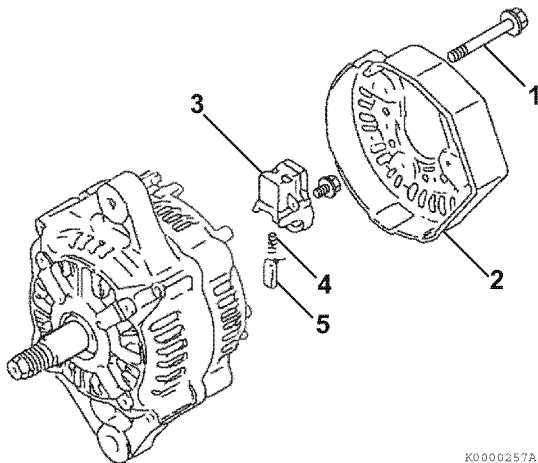

Figure 11-6
- Remove the three bolts (**Figure 11-6, (1)**) retaining the rear cover (**Figure 11-6, (2)**) to the rear frame assembly.
- Remove the brush holder (**Figure 11-6, (3)**). Remove the brush springs (**Figure 11-6, (4)**) and brushes (**Figure 11-6, (5)**).